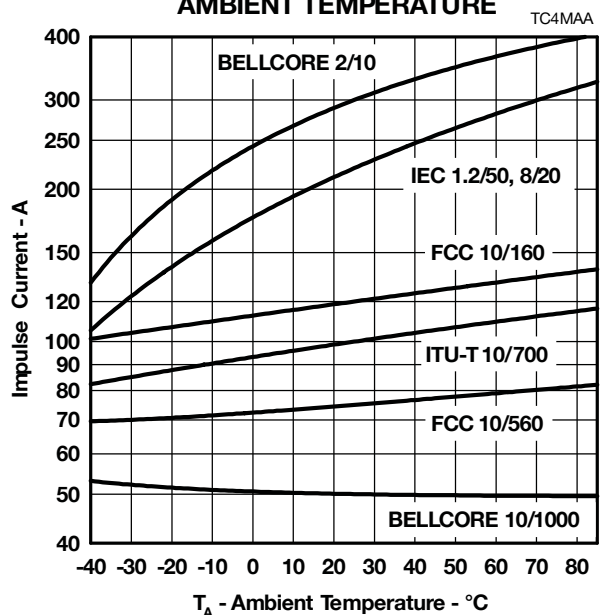

Figure 12.
4. See Applications Information and Figure 12 for current ratings at other temperatures.
For the FCC Part 68 10/560 waveform, the following values result. The minimum total circuit impedance is $800/75 = 10.7 \Omega$ and the generator's fictive impedance is $800/100 = 8 \Omega$. This gives a minimum series resistance value of $10.7 - 8 = 2.7 \Omega$. After allowing for tolerance, a $3 \Omega \pm 10\%$ resistor would be suitable. The 10/160 waveform needs a standard resistor value of 5.6 Ω per conductor. These would be R1a and R1b in Figure 16 and Figure 17. FCC Part 68 allows the equipment to be non-operational after the 10/160 (conductor to ground) and 10/560 (inter-conductor) impulses. The series resistor value may be reduced to zero to pass FCC Part 68 in a non-operational mode, e.g. Figure 15. For this type of design, the series fuse must open before the TISP4xxxM3 fails. For Figure 15, the maximum fuse i^2t is $2.3 A^2s$. In some cases, the equipment will require verification over a temperature range. By using the rated waveform values from Figure 12, the appropriate series resistor value can be calculated for ambient temperatures in the range of $-40 \text{ }^\circ\text{C}$ to $85 \text{ }^\circ\text{C}$.